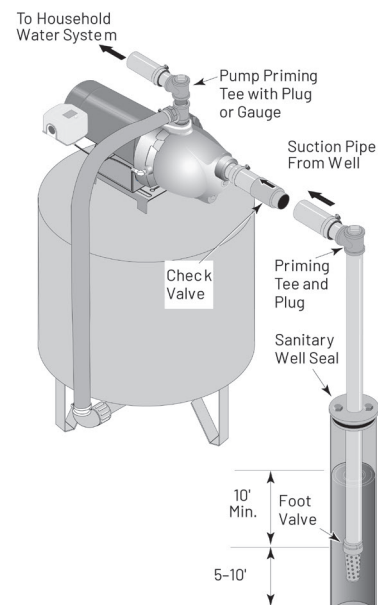

Figure 2: Cased Well Installation
2. Assemble the foot valve, strainer, and well pipe (Figure 2). Make sure that the foot valve works freely.
4. Install a priming tee, priming plug, and suction pipe to the pump (Figure 2). Connect the pipe from the well to the pump suction port, using the fewest possible fittings, especially elbows, as fittings increase friction in the pipe. Include a foot valve (Figure 2). The suction pipe should be at least as large as the suction port on the pump. Use PTFE pipe thread sealant tape on threaded pipe joints.